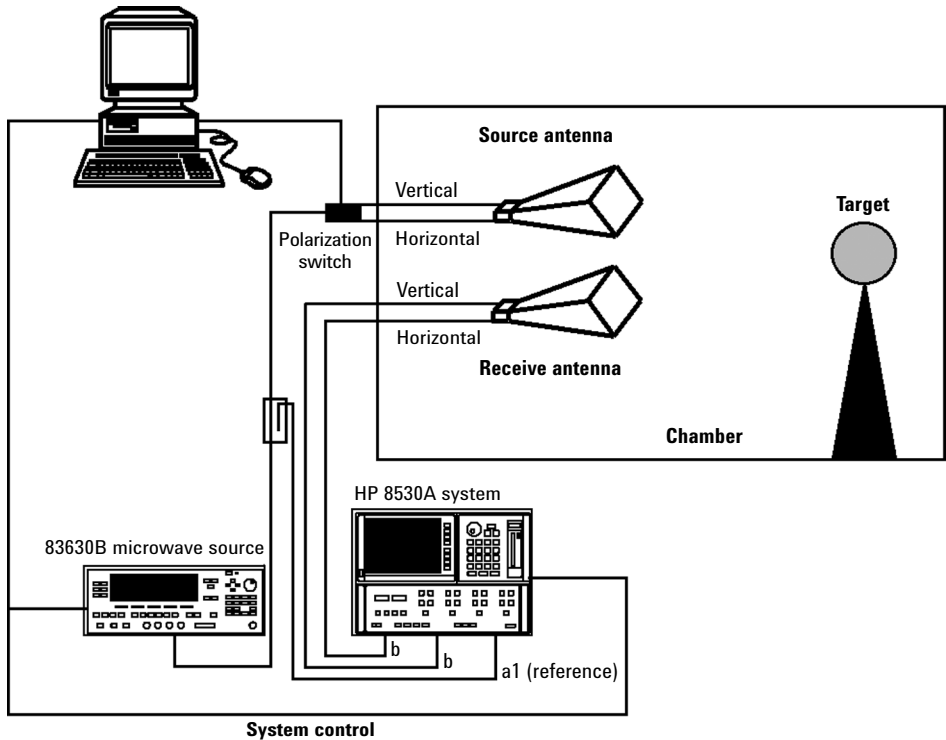
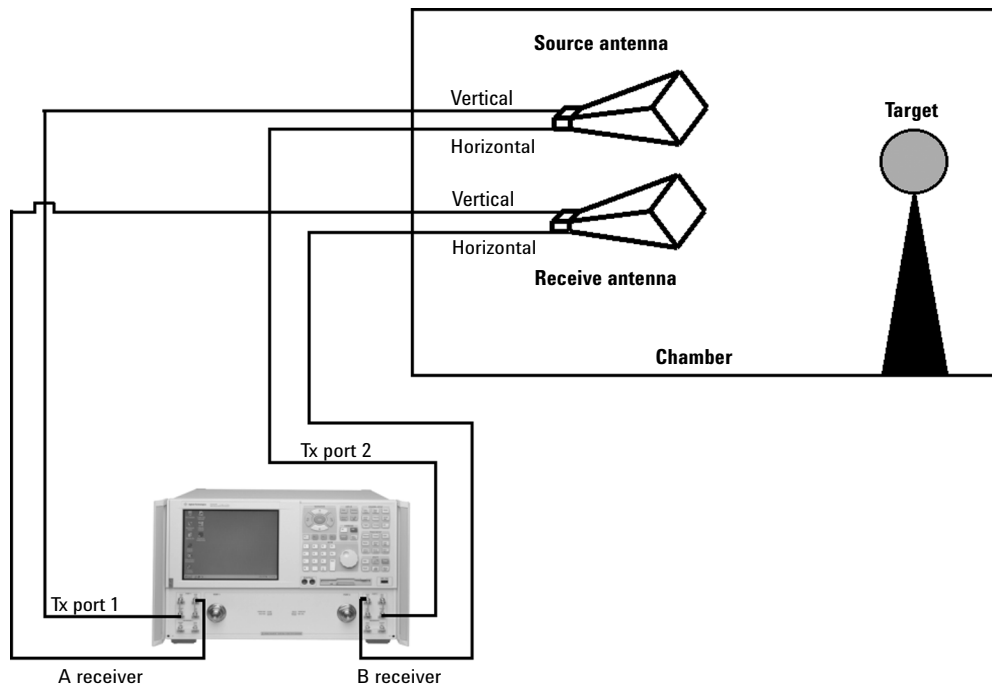

Figure 1. RCS full polarization matrix range with the HP 8530A
Figure 2. RCS full polarization matrix range with PNA
A typical RCS range is illustrated in Figure 1. This measurement consists of a test chamber, network analyzer, feed horns, and target. We will illustrate a full polarization matrix imaging example where the vertical and horizontal components of the electric field will be transmitted and measured independently as shown in Table 1. This will require two transmit and receive polarizations, vertical (V) and horizontal (H).
RCS measurements are made in the time domain by gathering frequency domain data and applying Fourier techniques to generate a synthetic pulse in time using a chirp-z transform. Figure 1 illustrated a typical RCS test using an HP 8530A system. Figure 2 illustrates a similar setup but utilizing an Agilent PNA network analyzer.